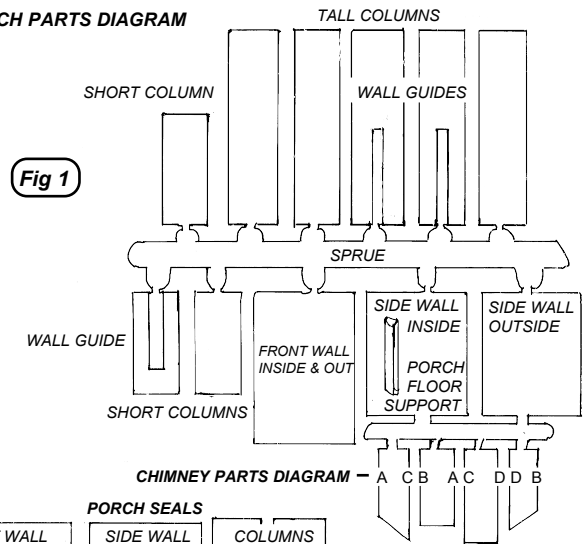

Fig 1
PORCH ASSEMBLY: (Kit 202 & 203) Start with the two (2) tall columns. (Fig 1 & 3) Cut off all the tall column pieces first. You will notice that four of the columns have wall guides at one end of them. These are to help align the side walls. Also notice that on the back of these parts there is an X. The X always goes down, so that all the brick work will match. Glue the columns together placing two of the wall guides together on one of the columns and only one of the wall guides on the other. (Fig 3) Discard the extra tall columns. Now cut the short columns off and glue them together using only one wall guide on it. (Fig 1 & 3) Next take a side wall with porch support and a plain side wall and glue together. (Do not remove the spacers, these parts are to be glued with space between them) Set aside and repeat on the other two side walls. (Check to see that the parts are square with each other while drying) After they've set they need to be glued to the tall columns wall guides. (See Fig 3 for proper positioning) While their setting cut off the front walls and glue them to the short column wall guides and to the remaining wall guide on the tall column. (if painting is desired now is a good time) Next glue the porch seals on. The side and front wall seals have pegs to align them. The column seals will have to be aligned by eye. Next you're ready for the porch floor. (this floor is intended to be concrete and can be painted a concrete color or if you want a wood floor you can score the plastic with a hobby knife to simulate boards then paint the color of your choice)